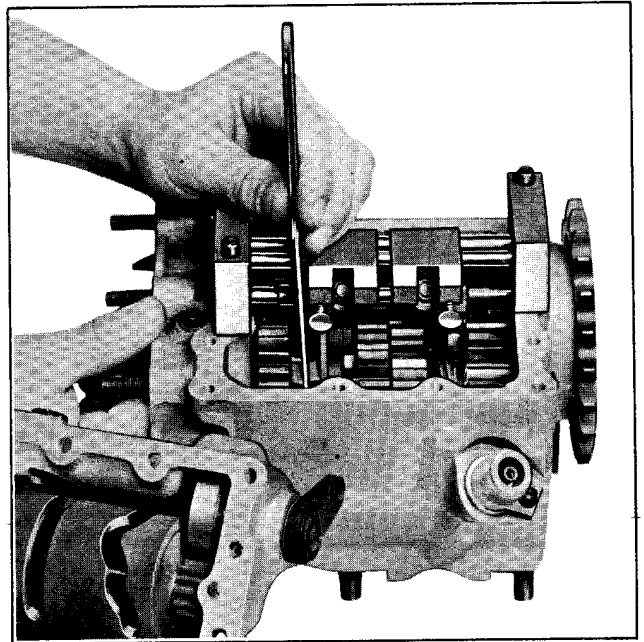
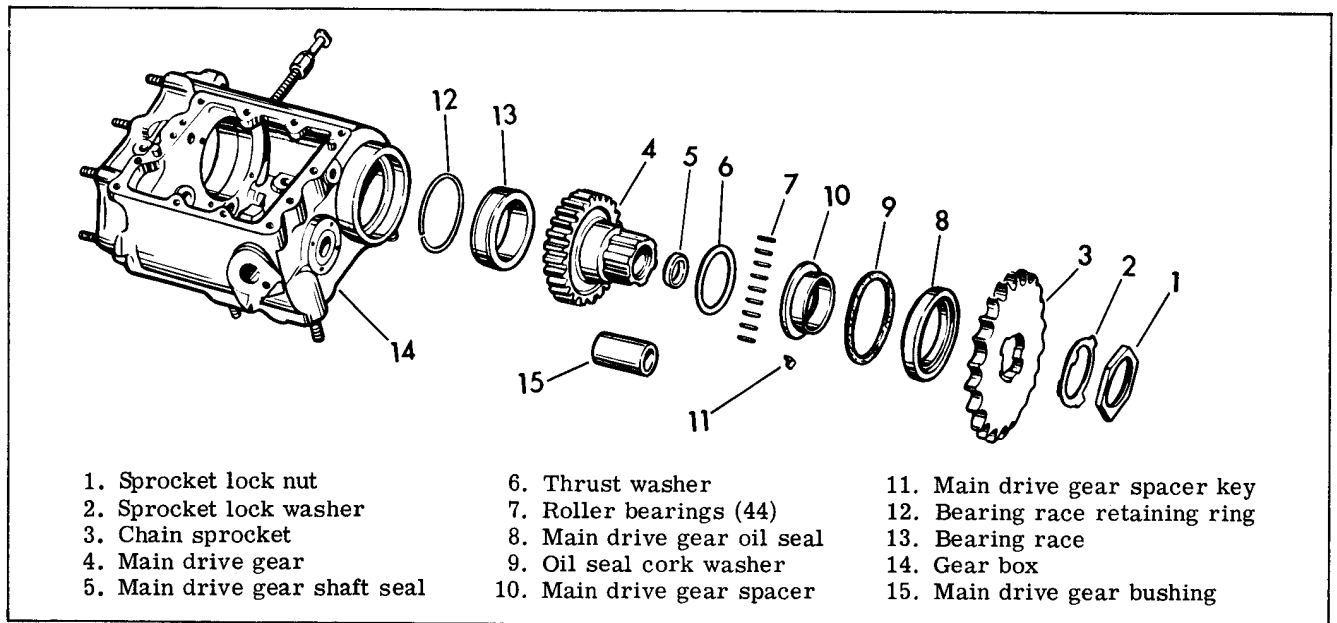

Figure 4-17. Checking Shifter Clutch Clearance
Figure 4-20 Main Drive Gear - Exploded View
Remove tool from cover, turn it over, and place it on transmission case with shifter fingers engaged in slots on gauge blocks as shown in Figure 4-17. Be sure shifter finger rollers are in place on shifter fingers.
#### DISASSEMBLING MAIN DRIVE GEAR (Figure 4-20)
To install main drive gear bearing race (13, Figure 4-20), heat case to about 300 degrees and press out old race with arbor press after removing bearing race retaining ring (12). Reheat case and press in new race until flange is seated against case. Install new bearing race retaining ring.
Check bearings (7, Figure 4-20 and 19 and 23, Figure 4-17) for proper fit in races according to tolerances shown in "Transmission Specifications." Replacement rollers are available standard, .0004 in. and .0008 in. oversize.
### ASSEMBLING MAIN DRIVE GEAR (Figure 4-20)